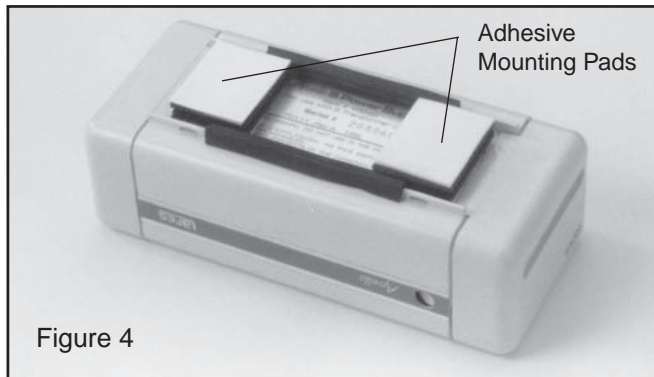

Figure 4
- 2) Peel away the cover on one side of both velcro adhesive mounting pads and affix to power supply in the positions shown. **Figure 4**. Peel away the remaining covers of the adhesive pads and affix power supply to the desired mounting surface. Apply enough pressure to top of power supply to assure positive contact of adhesive surfaces. Test power supply mounting for rigidity.